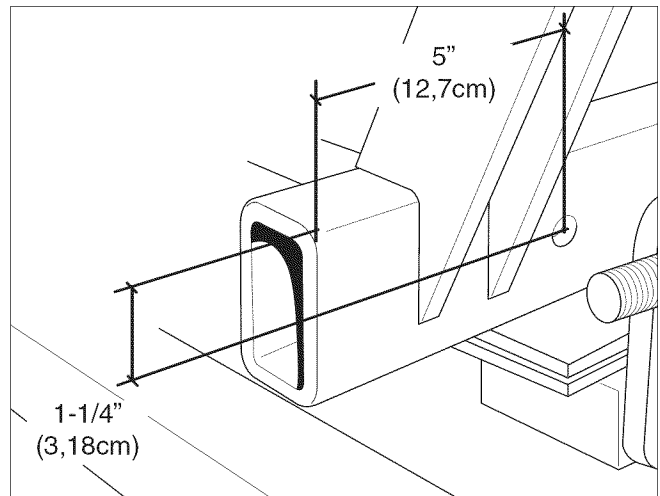

Figure 48. Hole Location
1. Measure and mark the front main frame tubes to the dimensions shown in Figure 48.
2. Using a 3/8" drill bit, drill one (1) hole in each of the main frame tubes from the outside surface of the tube.